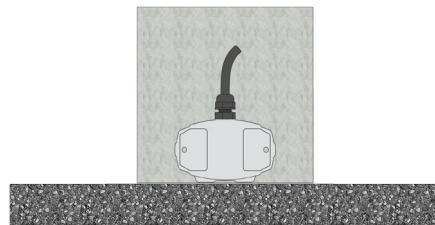

Figure 27. Compact Sensor Module Position of Calibration Step 2
6. Locate the sensor module as following Figure 27. The sensor is ready for user to perform calibration step 2.